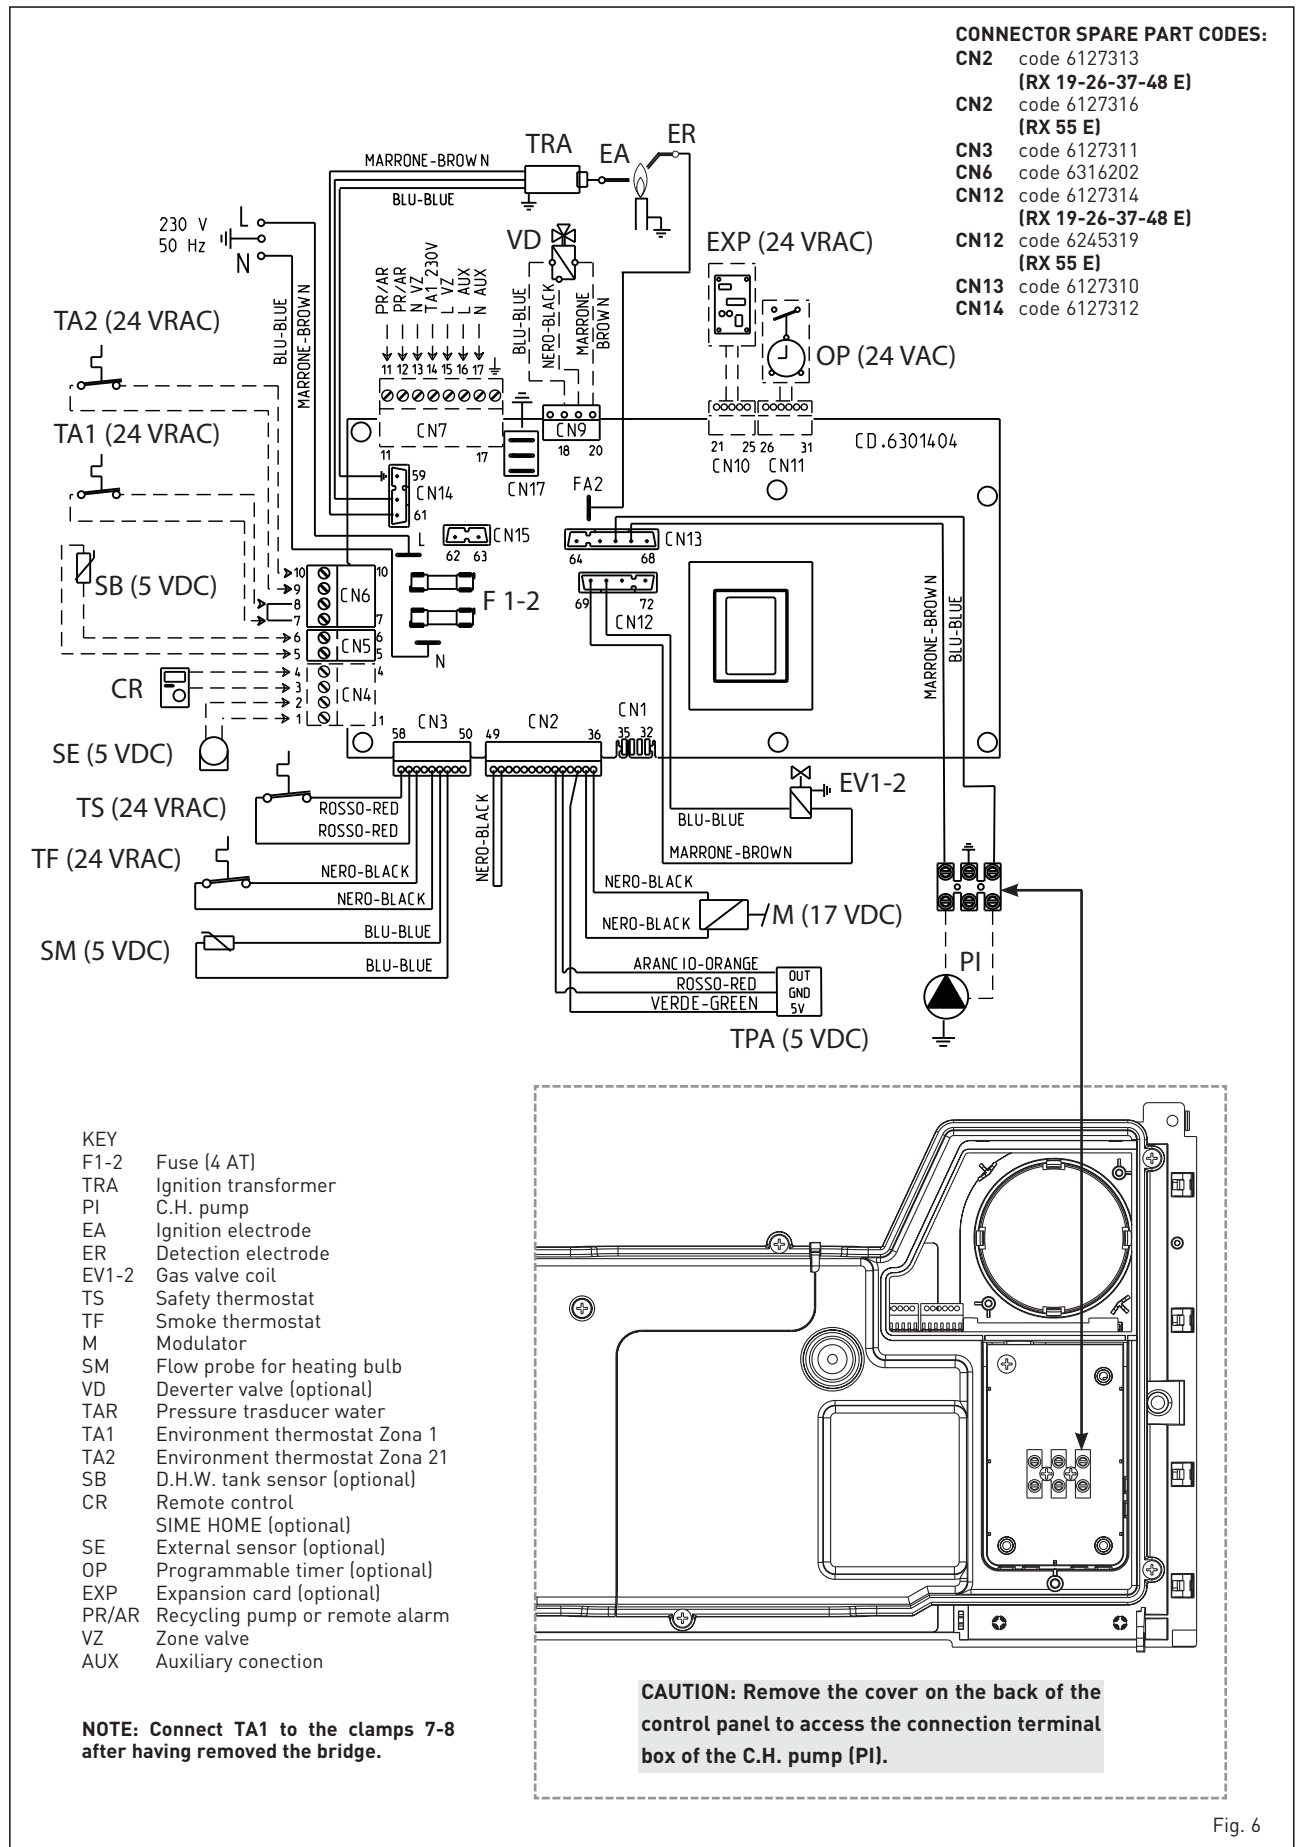

Fig. 6
The electrical connections to the boiler refer to the wording on the diagrams (fig. 6). The zone valve control starts at every
2.12 BOILER ELECTRICAL (fig. 6)